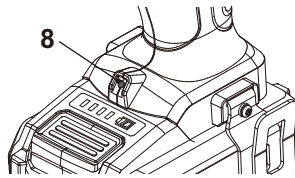

Fig. 8
The work light (9) automatically illuminates by pressing the on/off switch (Fig. 8).